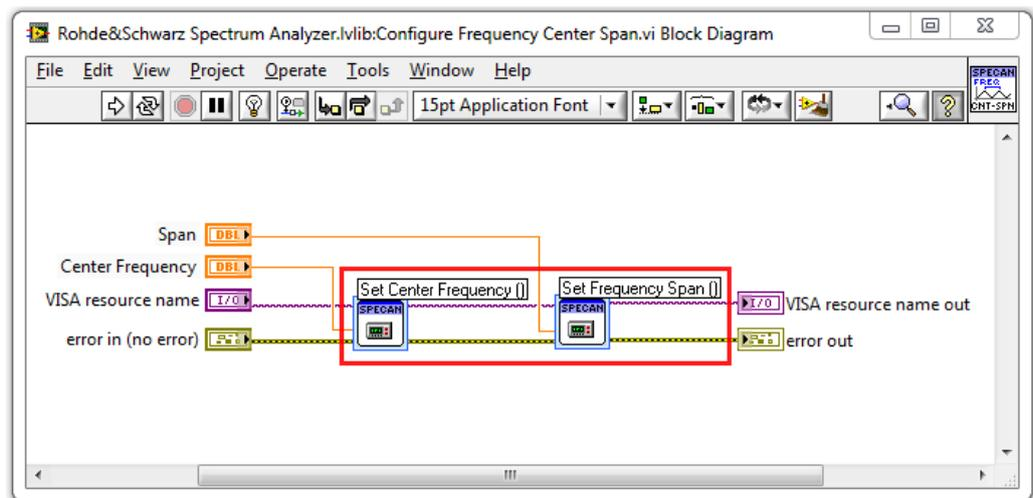

Fig. 2-3: Example of attribute-based `rsspecan` driver Hi-level function VI for setting center frequency and span using two Express VI instances.
- **Copying from existing code:** Use the driver Hi-level function e.g. figure 2-3 to copy the instances of Express VI from. Copying the Express VI instance also copies its configuration. Rich-text VI title will be replaced by plain text, because LabVIEW will add an index number at the end of the title to distinguish between the instances. You have to run the Configuration panel to get it back to rich-text title.